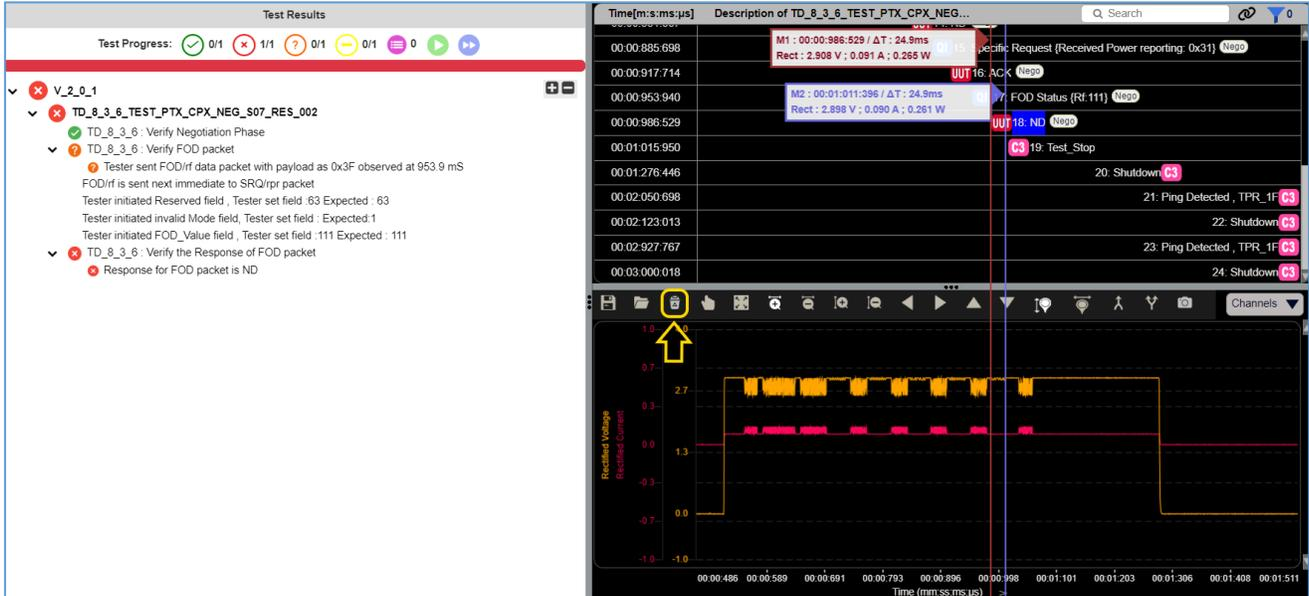

FIGURE 8.68: CLEAR CAPTURE BUTTON
- To remove the trace file from the screen, the user can click on the **Clear Capture** button as indicated in Figure 8.68 below.